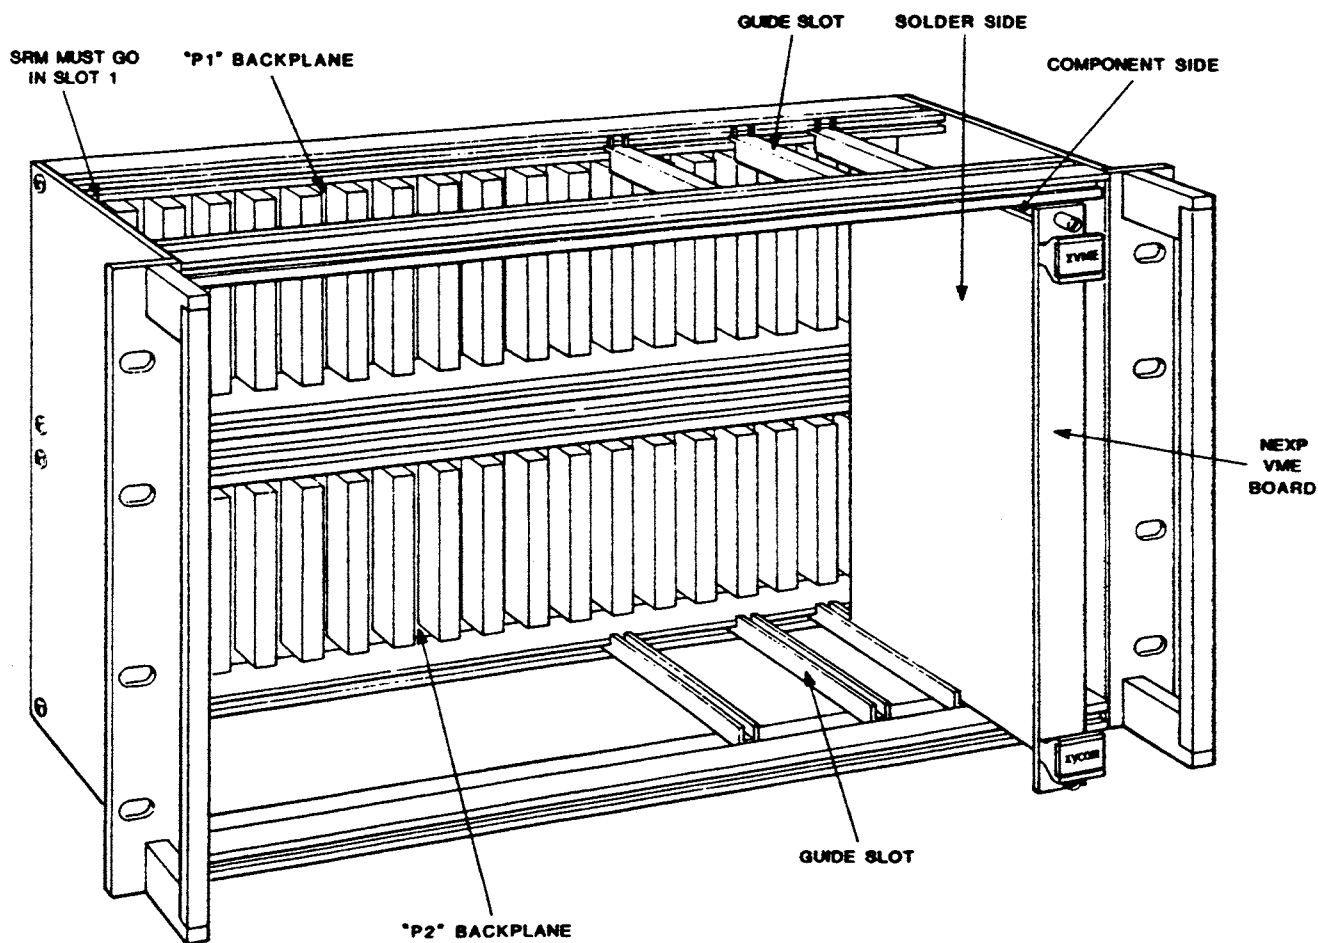

Figure 2-6. VMEbus Chassis
The XYCOM VMEbus modules can accommodate typical VMEbus backplane construction. Figure 2-6 shows a standard VME chassis and a typical backplane configuration. There are two rows of backplane connectors depicted (i.e., the P1 backplane and the P2 backplane). The AIN requires only the P1 connector.
- 2) Center the board on the plastic guides so that the solder side is facing to the left and the component side is facing to the right (refer to Figure 2-6).